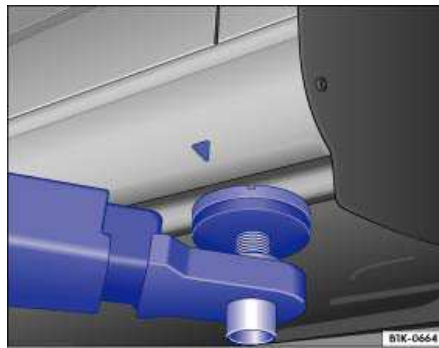
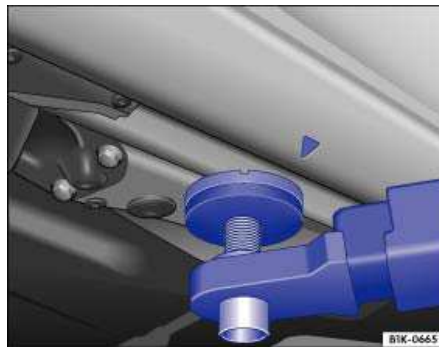

Fig. 191 Front lift point for workshop hoist or floor jack.
Fig. 192 Rear lift point for workshop hoist or floor jack.
The vehicle may only be raised at the lift points shown in illustrations ⇒ fig. 191 and ⇒ fig. 192. If the vehicle is lifted at different points, vehicle damage ⇒  and serious injuries may occur ⇒ .
- Always lift your vehicle only at the designated lift points shown in the illustrations ⇒ fig. 191 and ⇒ fig. 192. Not using the designated lift points can cause the vehicle to fall off the floor jack when heavy parts such as the engine or transmission are removed.